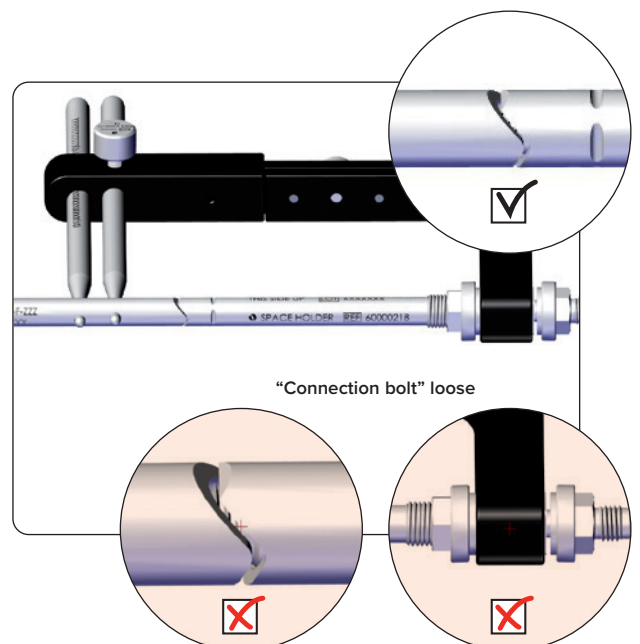

Fig. 38 Connection Bolt loose
4. The Fitbone is loosely fixed to the “connection bolt” (**Fig. 38**).